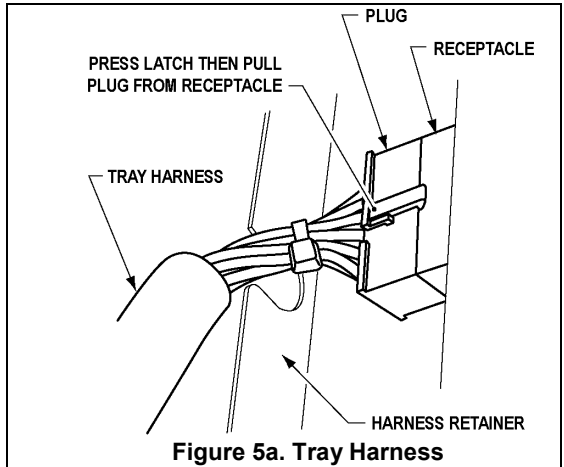

Figure 5a. Tray Harness
2. Disengage the tray harness from its harness retainer on the right side wall. See Figure 5a on page 7. Disconnect the tray plug from its receptacle on the right side wall.
8. Re-engage the tray harness into its harness retainer. See Figure 5a
2. Locate the harness retainer on the right sidewall. See Figure 5a. Pull the tray harness out of the harness retainer.